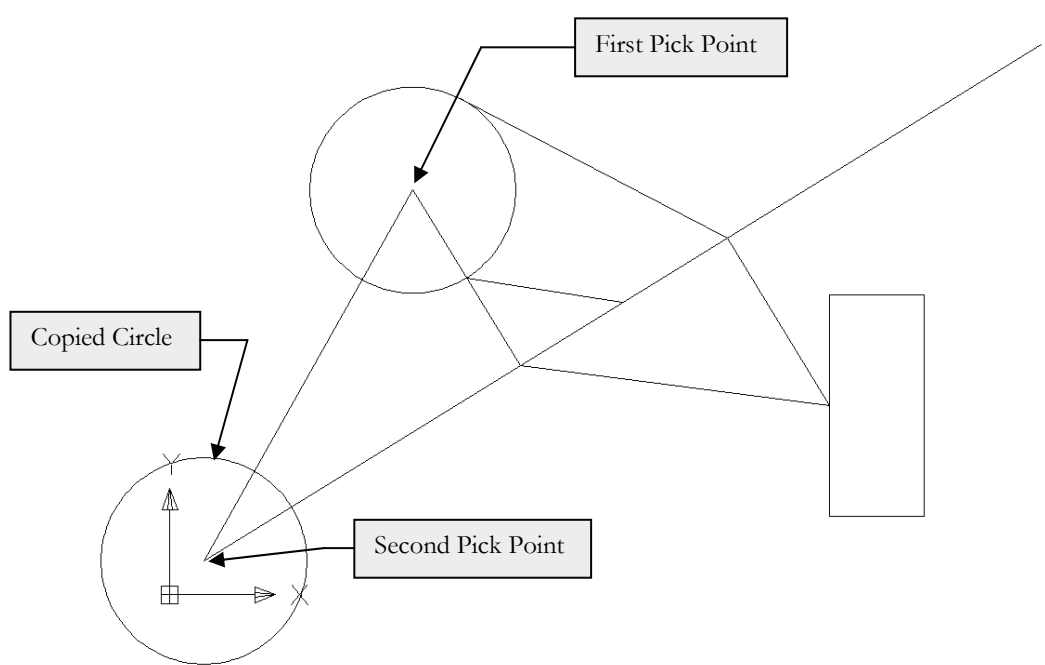

FIGURE 2-3.4
8. Pick the **Center** of the **circle** as the base point (Figure 2-3.4).
9. Pick the **Endpoint** of the angled line in the lower left corner. (See Figures 2-3.4 and 2-3.5.)
When you need to *Move* or *Copy* something to a very specific location, you can type in the distance and angle from the original entity (i.e., use the first point as displacement). This is very useful when you do not have any entities drawn that represent this distance and angle (e.g., as per the steps when you copied the circle, Figure 2-3.4).